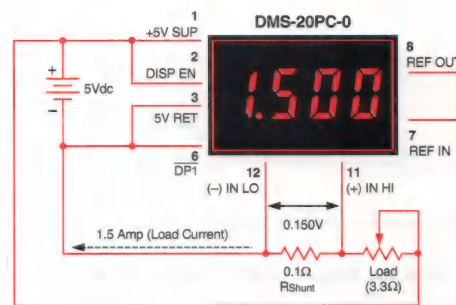

Figure 9. DC Ammeter Circuit
7. **Digital Ammeter:** Digital ammeters are finding ever-increasing usage because analog-style ammeters (moving-vane types) now cost roughly the same as their digital counterparts. Additionally, analog ammeters are not nearly as rugged as modern digital panel voltmeters. Figure 9 illustrates a typical ammeter application. The circuit uses a  $\pm 200mV$  input meter — the preferred range for most ammeters — to measure the voltage developed across a  $0.1\Omega$  current shunt. The circuit shown represents a basic ammeter connection diagram. A detailed application note describing digital dc ammeters is included in DATEL's new Digital Panel Meter Databook.